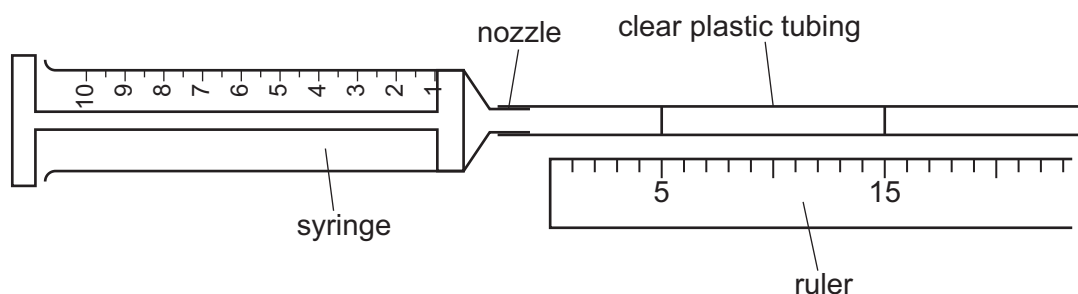

Figure 1.1
- step 3 Put clear plastic tubing onto the nozzle of a 10 cm3 syringe, as shown in Figure 1.1.
- step 4 Put two marks on the tubing so that one mark is 5 cm from the nozzle and the other mark is 15 cm from the nozzle, as shown in Figure 1.1.